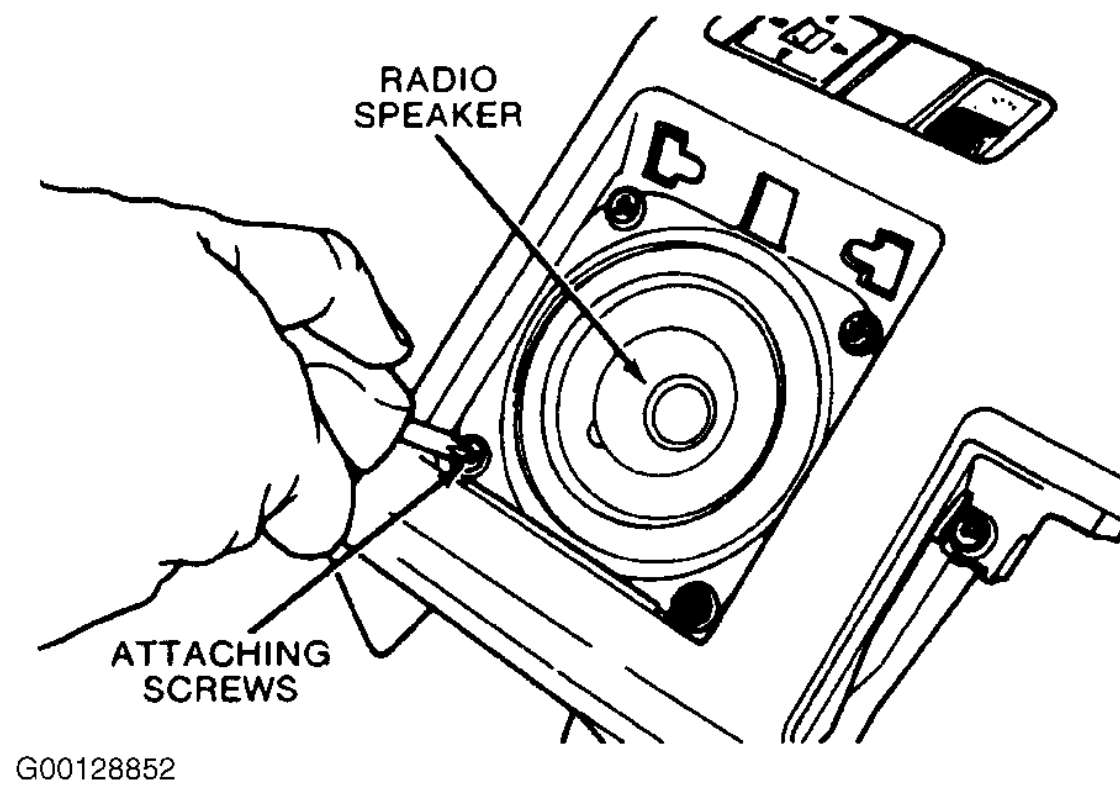

Fig. 10: Identifying Radio Speaker Attaching Screws
2. Remove the four speaker attaching screws and the radio speaker. See Fig. 10.